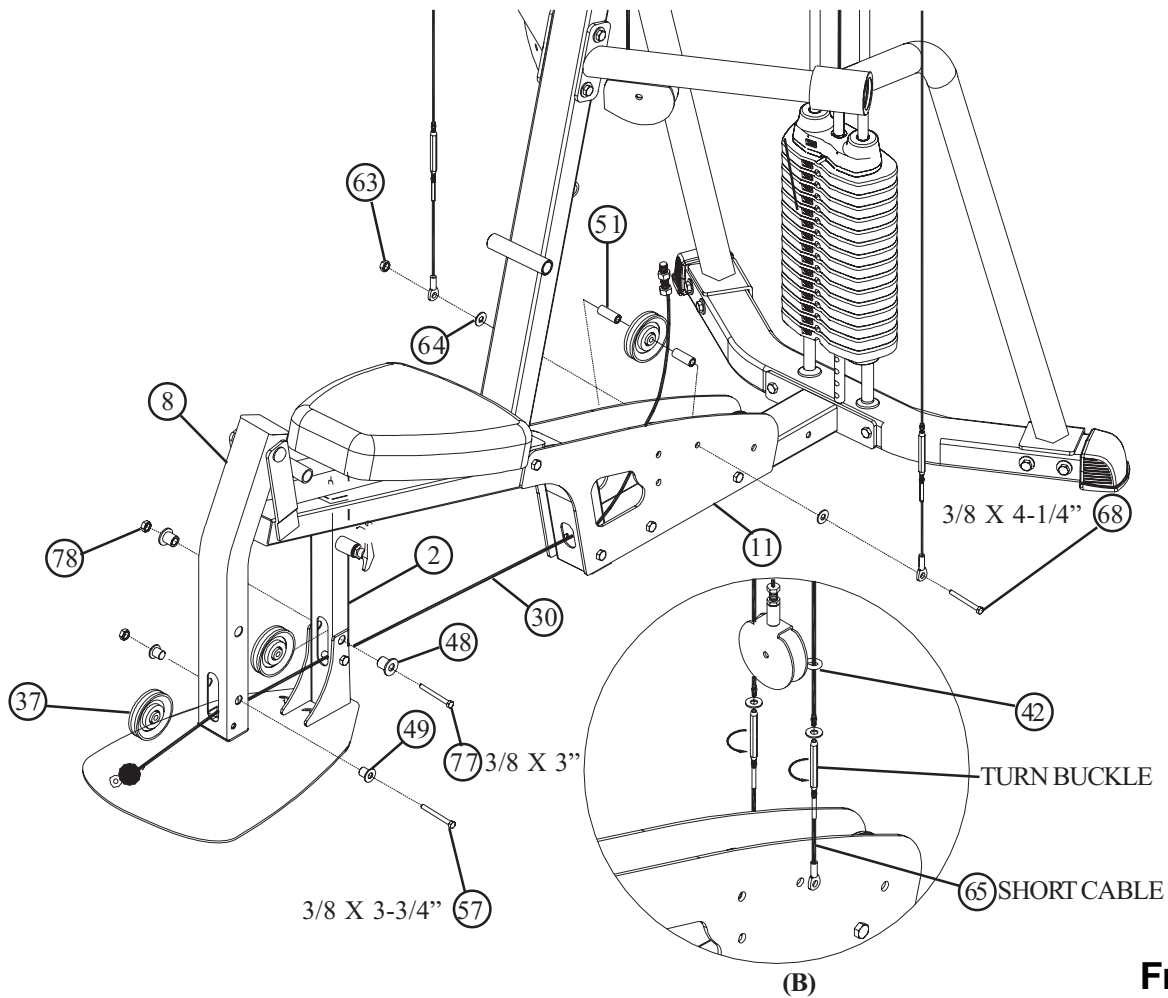
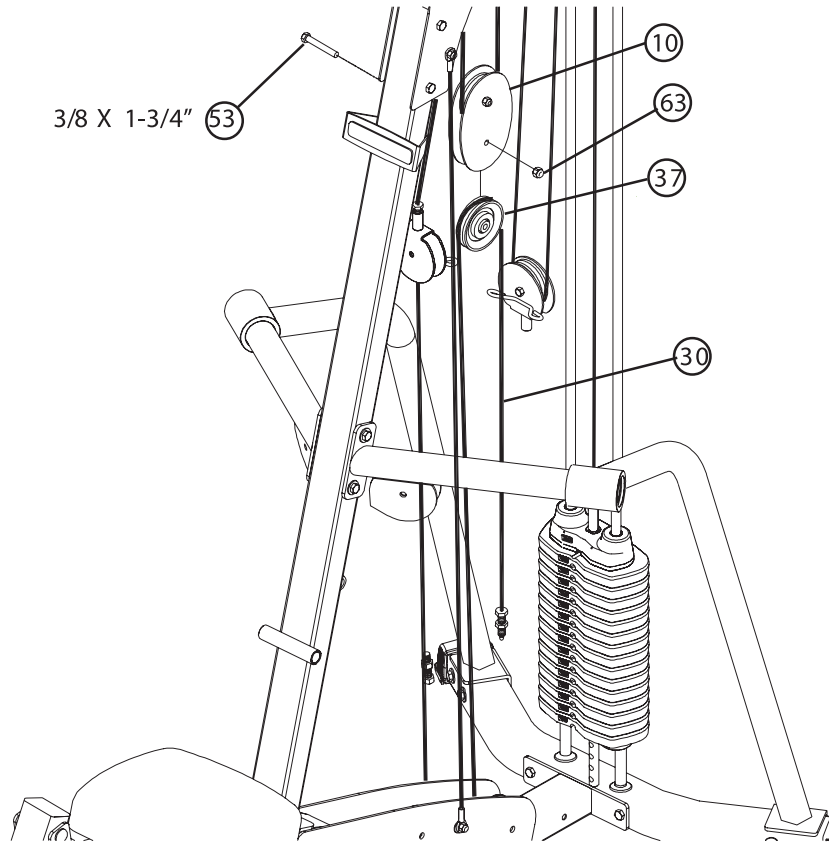

FIGURE 13
FIGURE 14
- Securely assemble the ball end of the LEG CABLE (30) and one 3-1/2" PULLEY (37) to the LEG PEDESTAL (8), using one 3/8 x 3-3/4" BOLT (57), two 3/8 x 1-1/16" FLANGE SPACERS (49), and one 3/8" SILVER LOCK NUT (63).
- Securely assemble one 3-1/2" PULLEY (37) to the FRONT BASE (1), using one 3/8 x 3" CLEAR ZINC BOLT (67), two 3/8 x 3/4" FLANGE SPACERS (48) and one 3/8" BLACK LOCK NUT (78).
- NOTE:** The LEG CABLE (30) must be routed over the retaining bolt as shown in Figure 13.
- Carefully slide the GUIDE CABLES (65) through the GUIDE BRACKET (42) as shown in Figure 13 (B).
- Reassemble the ends of the GUIDE CABLES (65) as shown in Figure 13 (B) by attaching the Short Cables and Turnbuckles that were removed in Step 11 (D).
- Assemble one 3-1/2" PULLEY (37) to the BASE PLATES (11), using one 3/8 x 4-1/4" SILVER BOLT (68), two 3/8" FLAT WASHERS (64), two GUIDE CABLES (65), two 3/8 x 1" SPACERS (51) and one 3/8" SILVER LOCK NUT (63).
NOTE: Loop the LEG CABLE (30) around the 3-1/2" PULLEY (37) before attaching it to the BASE PLATES (11), as shown in Figure 13.
- Adjust the Turnbuckle on each GUIDE CABLE (65) to add tension to the GUIDE CABLES (65) until they are taut. Secure Turnbuckle with the Jam Nuts as seen in Figure 13 (B).
- Securely assemble one 3-1/2" PULLEY (37) to the PULLEY PLATES (10), using one 3/8 x 1-3/4" BOLT (53) and one 3/8" SILVER LOCK NUT (63).
NOTE: Loop the LEG CABLE (30) over the PULLEY (37) before assembling the PULLEY PLATES (10) as shown in Figure 14.